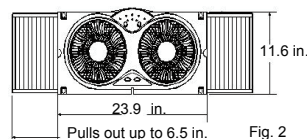

Fig. 2
- This window fan has been designed to fit double-hung, slider and casement windows with minimum openings of 24.4 in. wide and 11.6 in. high. (Fig. 2)